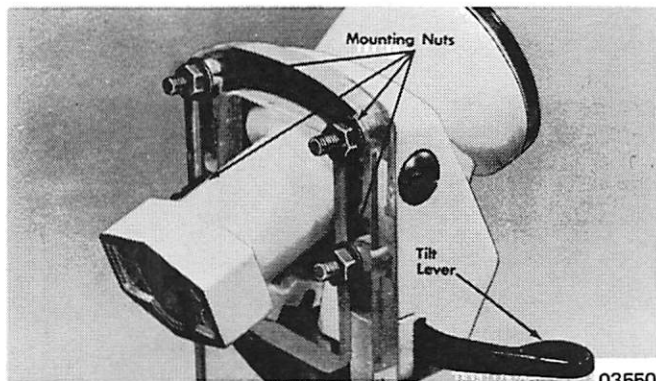

Figure 1. Steering Wheel Housing Installed
2. Fasten steering wheel housing in place with 4 nuts (12) and washers (11) and tighten. (Figure 1)